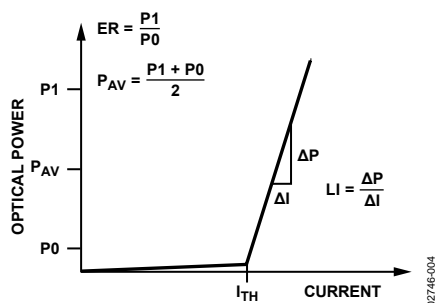

Figure 4. Laser Transfer Function
A laser diode (LD) has current-in to light-out transfer functions, as shown in Figure 4. Two key characteristics of this transfer function are the threshold current, I_{TH} , and slope in the linear region beyond the threshold current, referred to as slope efficiency, or LI.